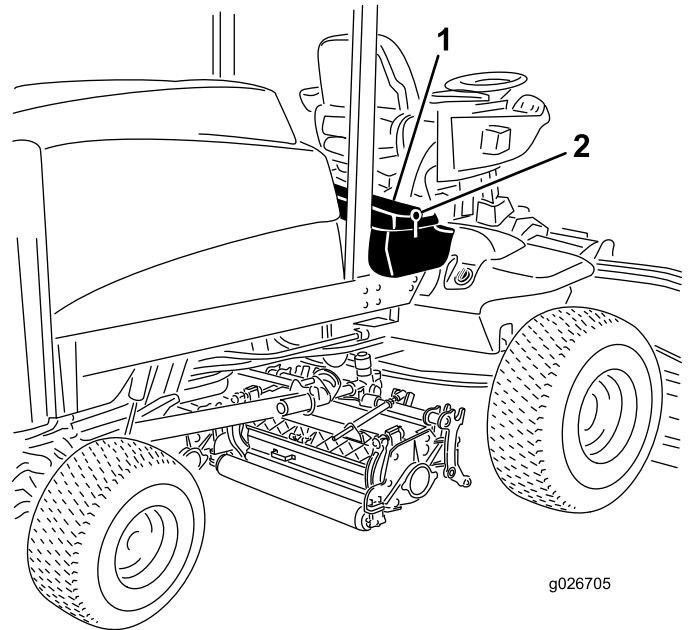

Figure 80
1. Unlatch and raise the operator's console panel (Figure 80).